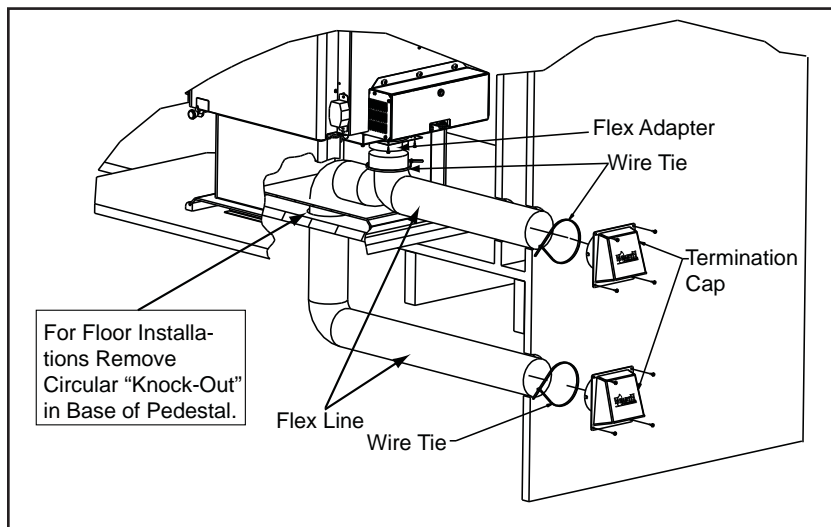

Figure 22.1 - Floor & Rear Installation
2. Using a #2 Phillips screwdriver attach the flex adapter to the appliance using 4 screws. **Figure 22.1**